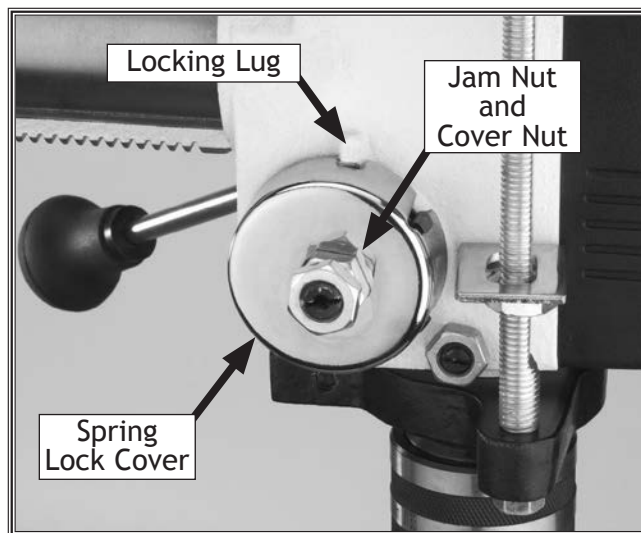

Figure 22. Feed shaft return spring assembly.
2. Wipe off any oil on the spring-lock cover so it will not slip when you hold the cover from spinning (see **Figure 22**).